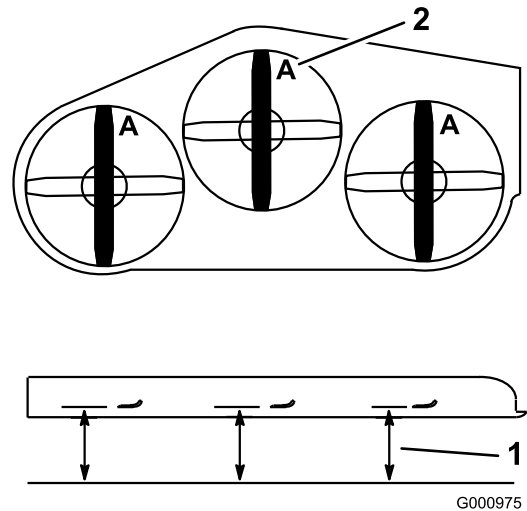

Figure 74
4. Measure from a level surface to the cutting edge, position A, of the blades (Figure 74).